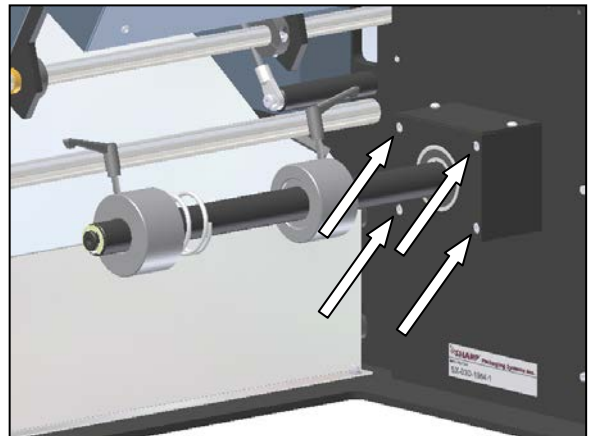

Figure 3-374. Unwind Plate Mounting Screws
- With the shaft completely slid onto the machine, reinsert the four mounting screws for the unwind bearing plate (Figure 3-374).